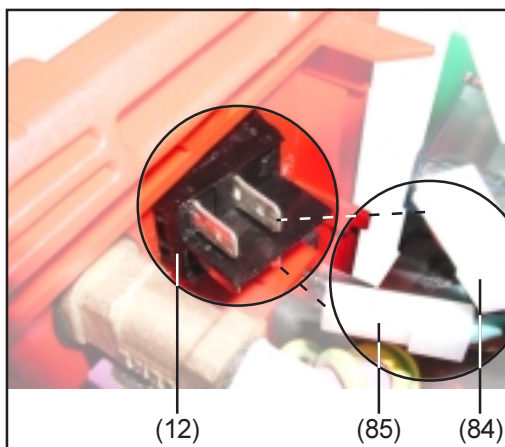

Fig. 4
- Press in the catch on the side of the mains switch (12) and prise out the mains switch (12) (Fig.4)